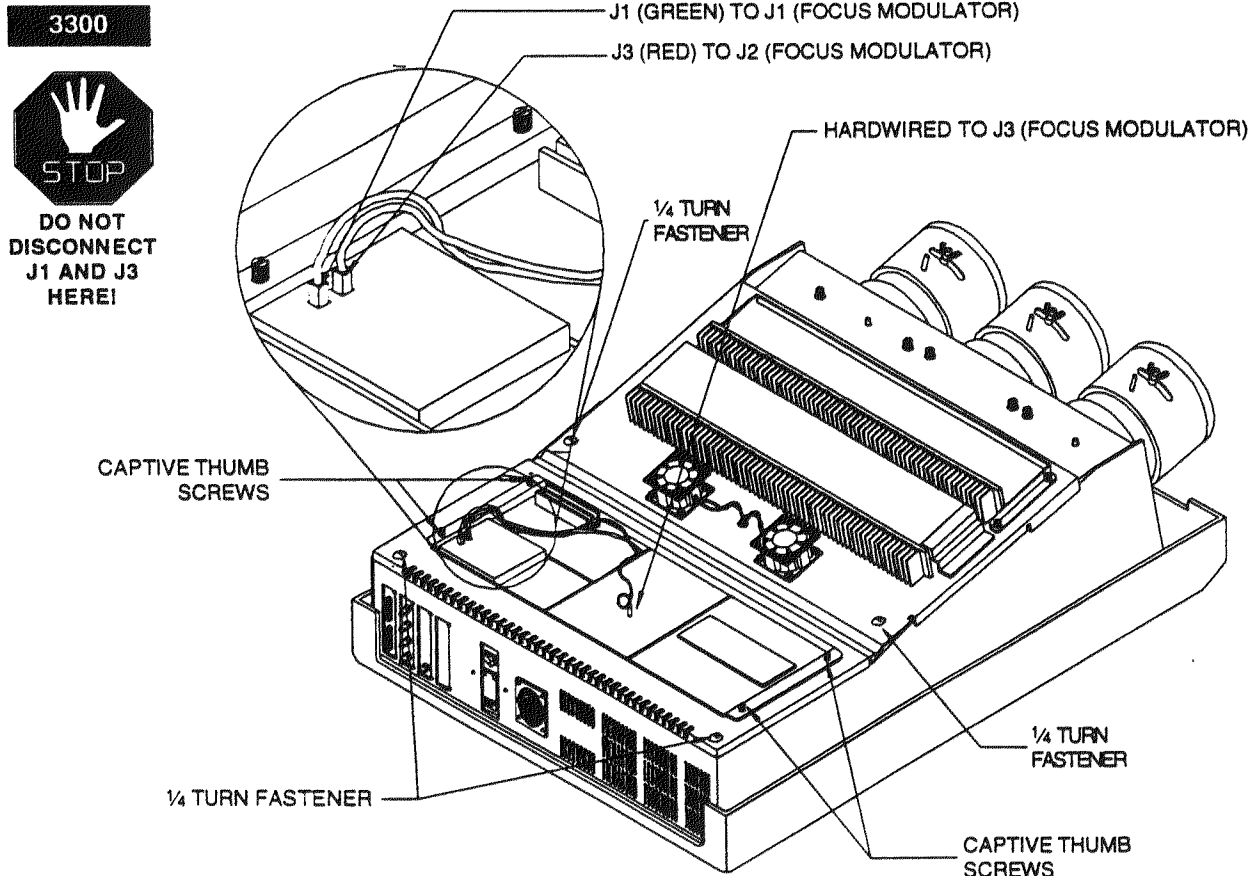
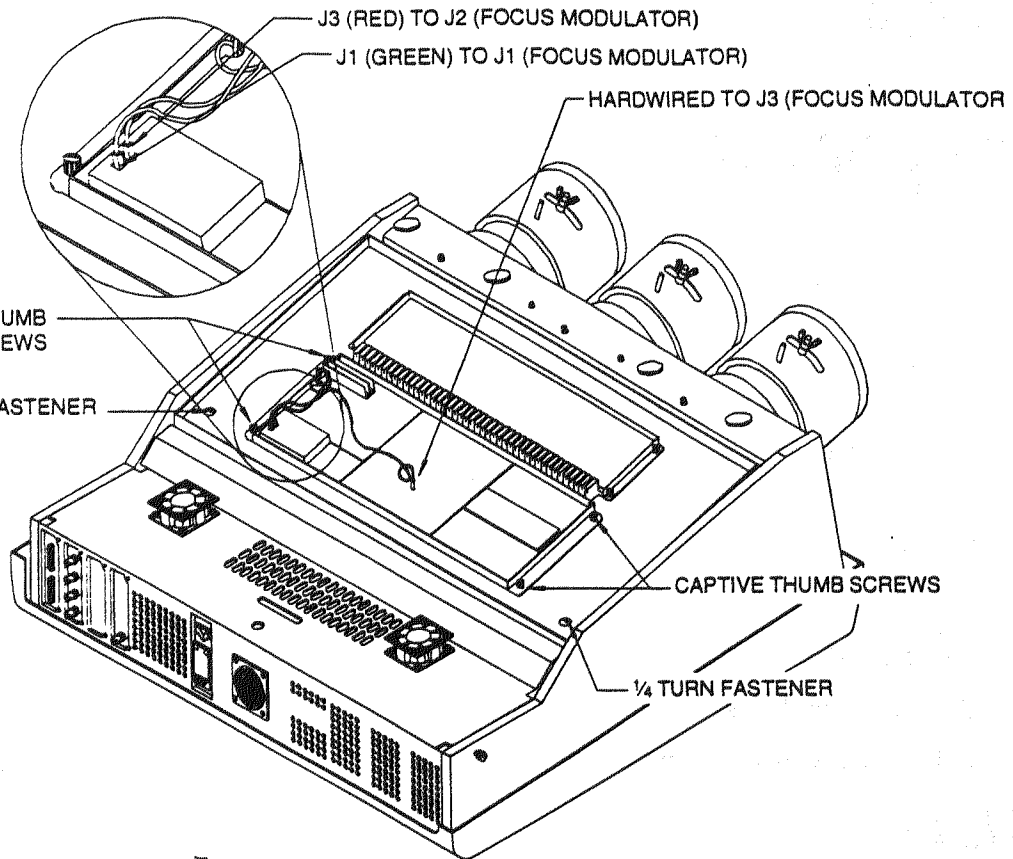

FIGURE 10-20A. REGISTRATION REPLACEMENT (3300).
FIGURE 10-20B. 4300 REGISTRATION REPLACEMENT.
- P 3. Unlock and tilt-up the Registration Tray assembly; The Registration tray assembly is secured by two ¼ turn fasteners located at the rear of this assembly. See Figure 10-20A and 10-20B.
- STEP 5. 3300: Loosen the two ¼ turn fasteners located at the rear of the Main Tray assembly and tilt-up. See Figure 10-20A. 4300: Loosen the two ¼ at the rear of Tray assembly 1, see Figure 10-20B.
- STEP 7. Lower the tray assemblies, loosen the four captive thumb screws located on both sides of the Registration assembly (Figure 10-20A-3300 and Figure 10-20B-4300), and lift the assembly out